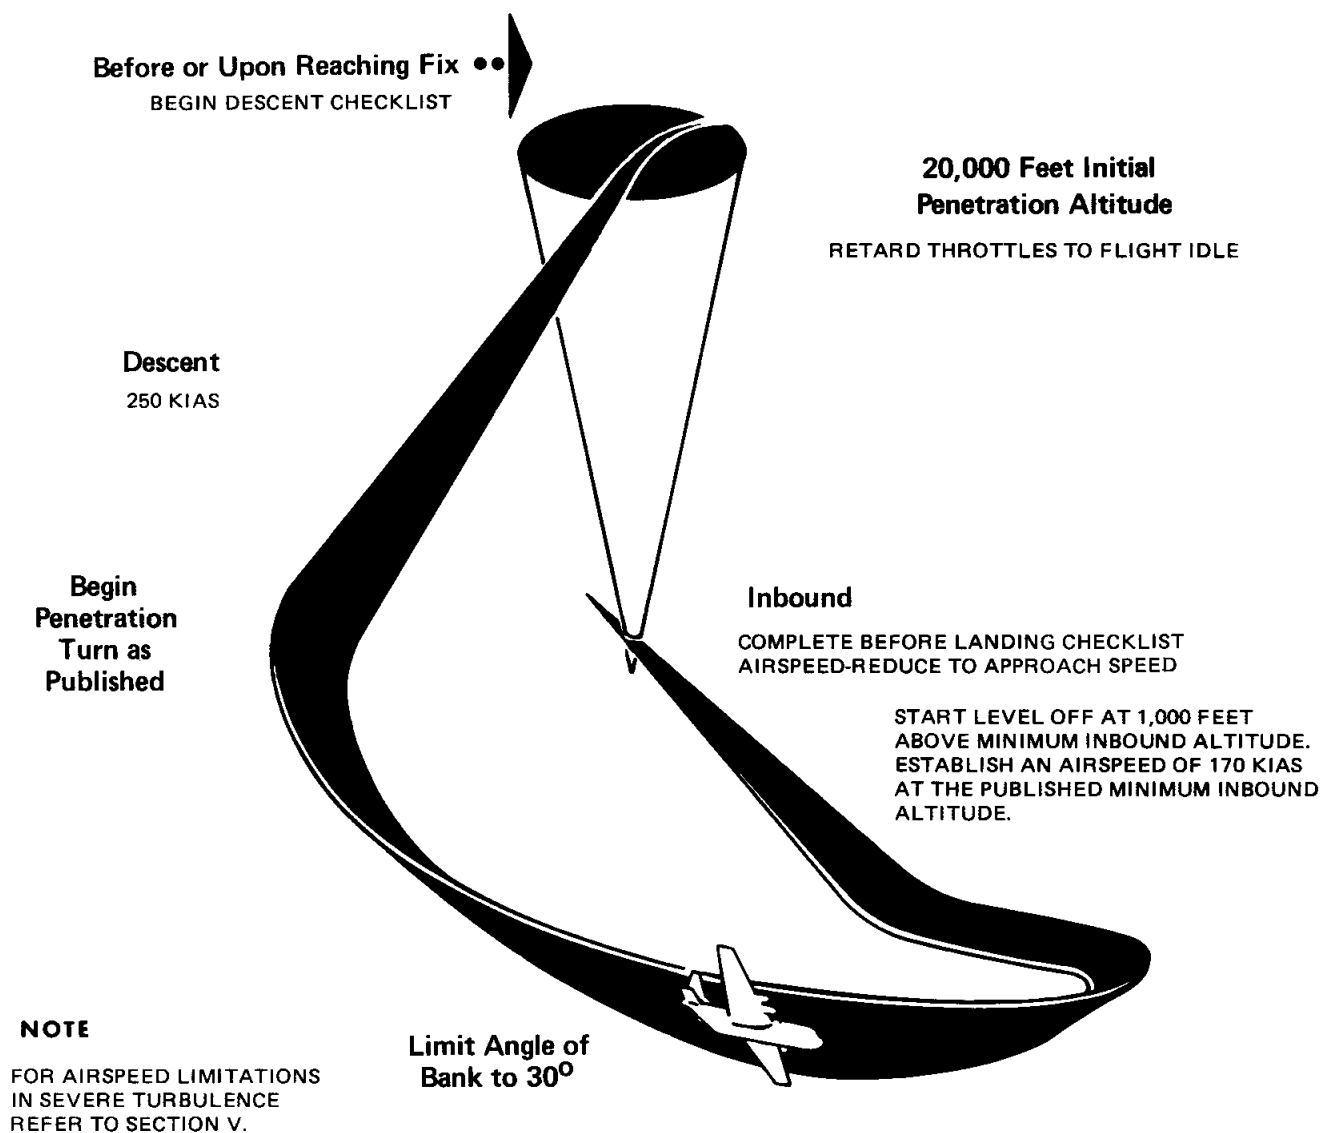

Figure 2B-1
5. Complete the BEFORE LANDING checklist prior to reaching the final approach fix. Allow the airspeed to decrease to approach speed and execute an approach as depicted in figures 2B-2 through 2B-9.